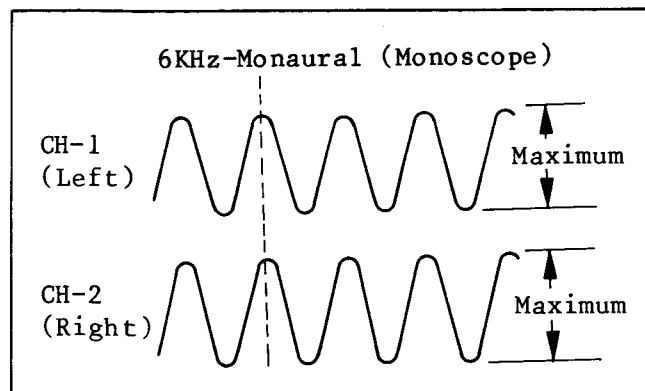

Fig. M26-4 Height and Azimuth Adjustment of A/C Head
6. Then, adjust screw (B) so that the phases of both channels match as shown in Fig. M26-4.